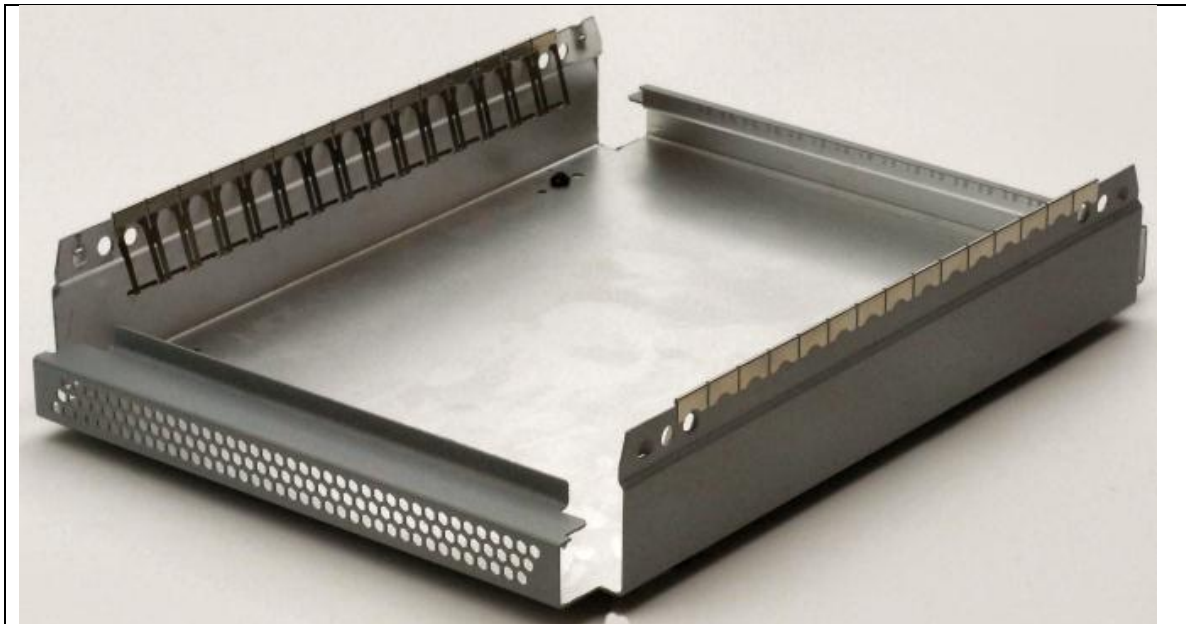

Figure 20
a. Locate the top and bottom covers. Follow the directions that come with the stainless steel finger stock and install it on both sides of the two covers, as shown in Figure 20.